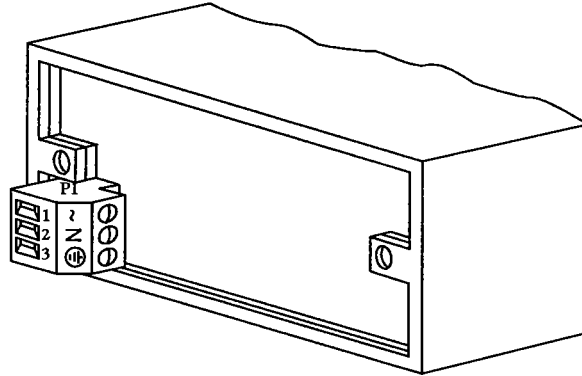

Figure 6-4. Rear View of the Meter
- Insert the orange power connector, which you just wired, into the connector located at lower left rear of the meter. Refer to Figure 6-4 for the location of P1.